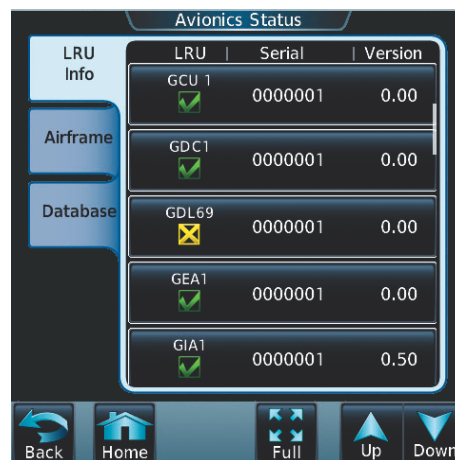

Figure 8-156 Detected Failure in Data Link Receiver
- 3) Scroll to display the **GDL69A** field as shown in Figure 8-156.